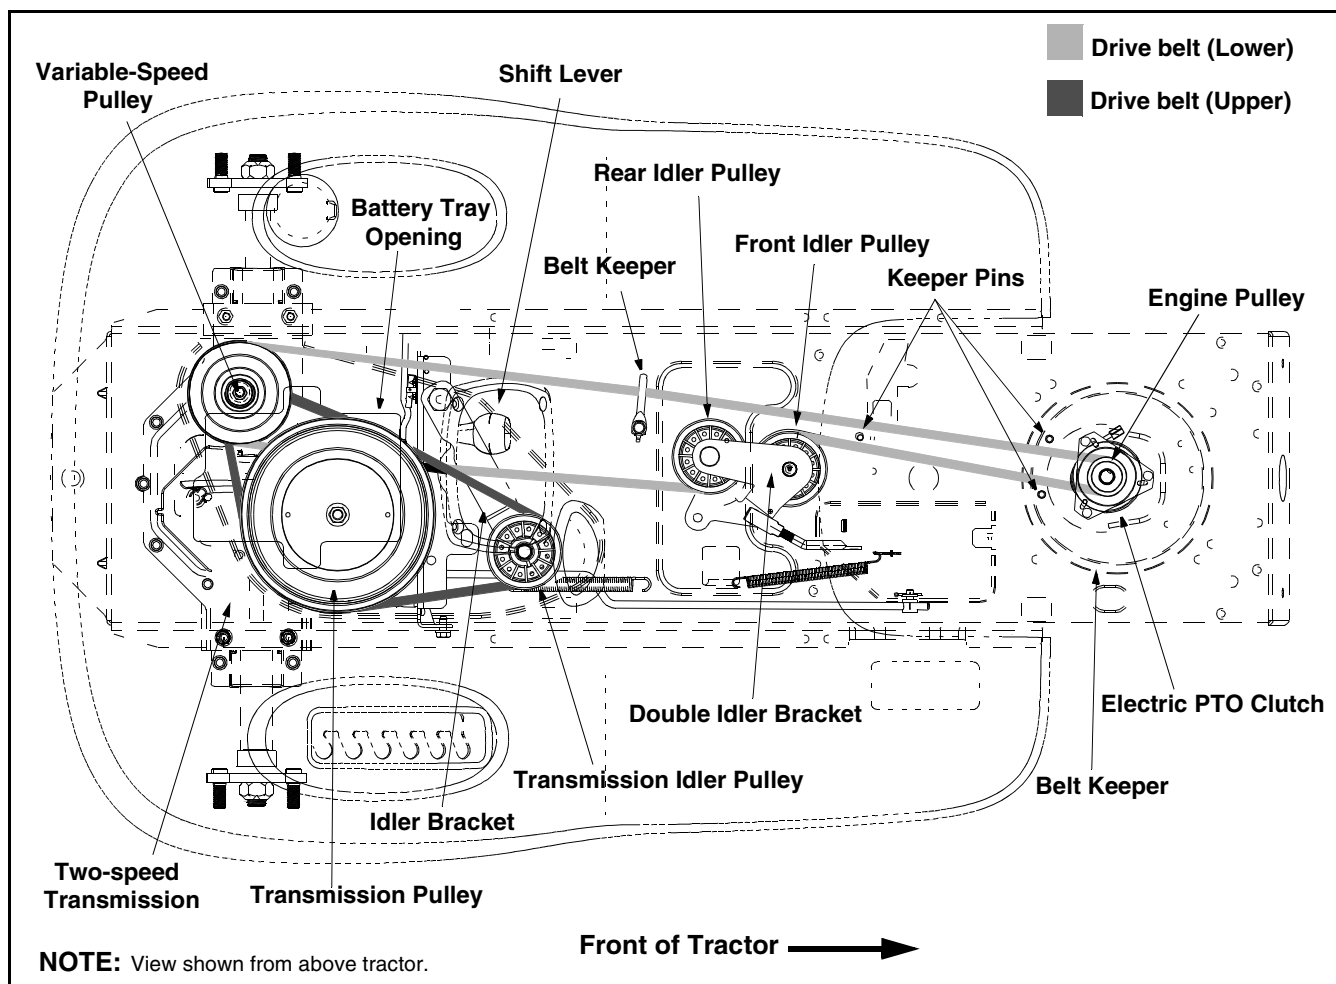

Figure 16
- Locate the transmission idler pulley on the upper drive belt by looking through the battery tray opening. See Figure 16.
- Reroute the new upper drive belt as shown in Figure 16.
- Locate the variable-speed pulley through the battery tray opening. See Figure 16.
- Remove the rear idler pulley from the double-idler bracket while unrouting the belt from around both the rear and the front idler pulley. Refer to Figure 16.
- Remove the drive belt by feeding it from both ends toward the front idler pulley on the double-idler bracket. See Figure 16.
- Reroute the new belt around the pulleys, belt keepers and keeper pins EXACTLY as the old one was routed. Refer to Figure 16.